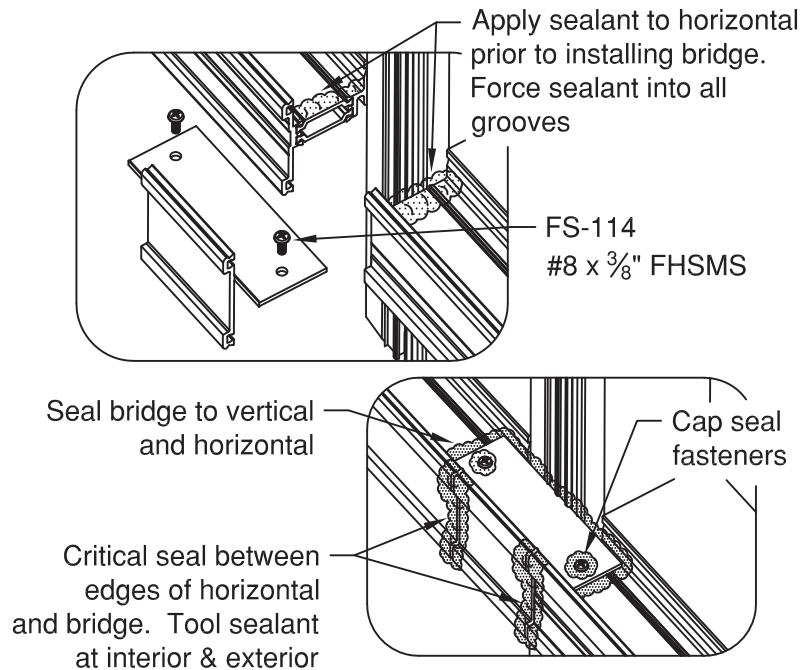

Figure 14
- 3.3 Install & seal zone plugs at captured verticals as shown in **FIGURE 13**. Tool sealant into space between zone plug & vertical & horizontal. Where there are SSG verticals, install & seal bridges. **SEE FIGURE 14 PAGE 12.**